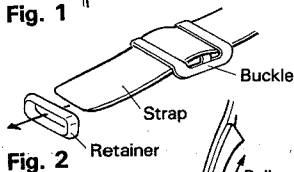

Fig. 2
- 2) Slide on the retainer as shown in Figure 2.